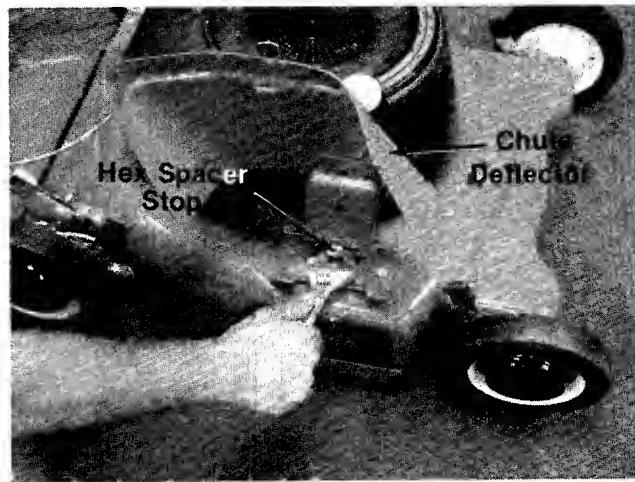
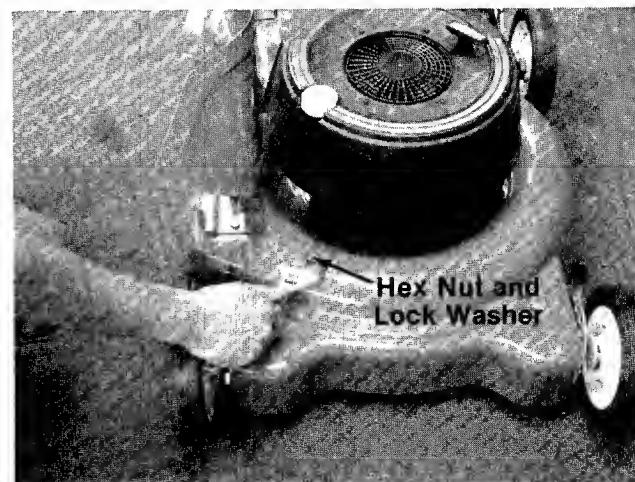

FIGURE 7.
FIGURE 8.
1. Remove the hex spacer stop and lock washer shown in figure 7. Remove the hex nut and lock washer shown in figure 8. Remove the mulching baffle.